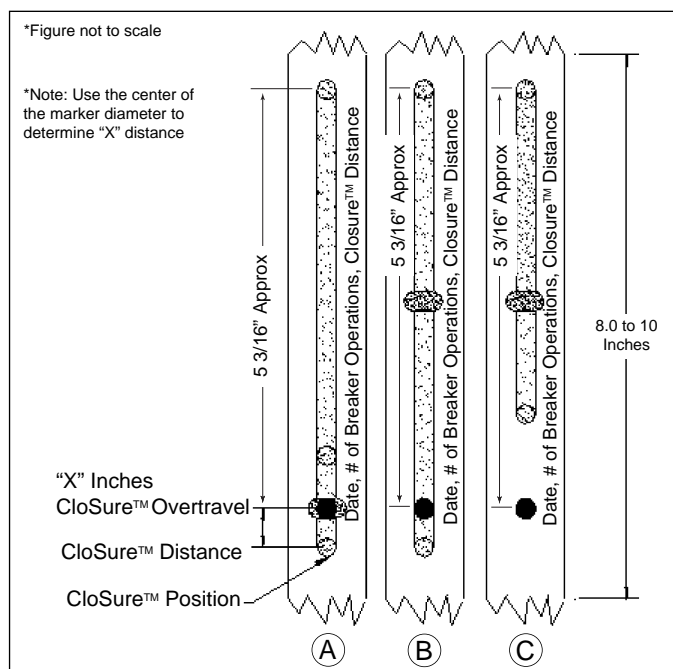

Figure 6-18 Illustrative Testing Tape Sample
Step 13 - Evaluate the CloSure™ performance by comparing the test tape with the illustrations in Figure 6-18. If the marking is similar to **6-18A**, measure the over travel "x": If "x" is greater than or equal to 0.6 inches, the circuit breaker performance is satisfactory. If "x" is less than 0.6 inches or if the marking is similar to **6-18B** or **6-18C**, immediately contact the Product Integrity Center for Technical Support at (412) 787-6518.